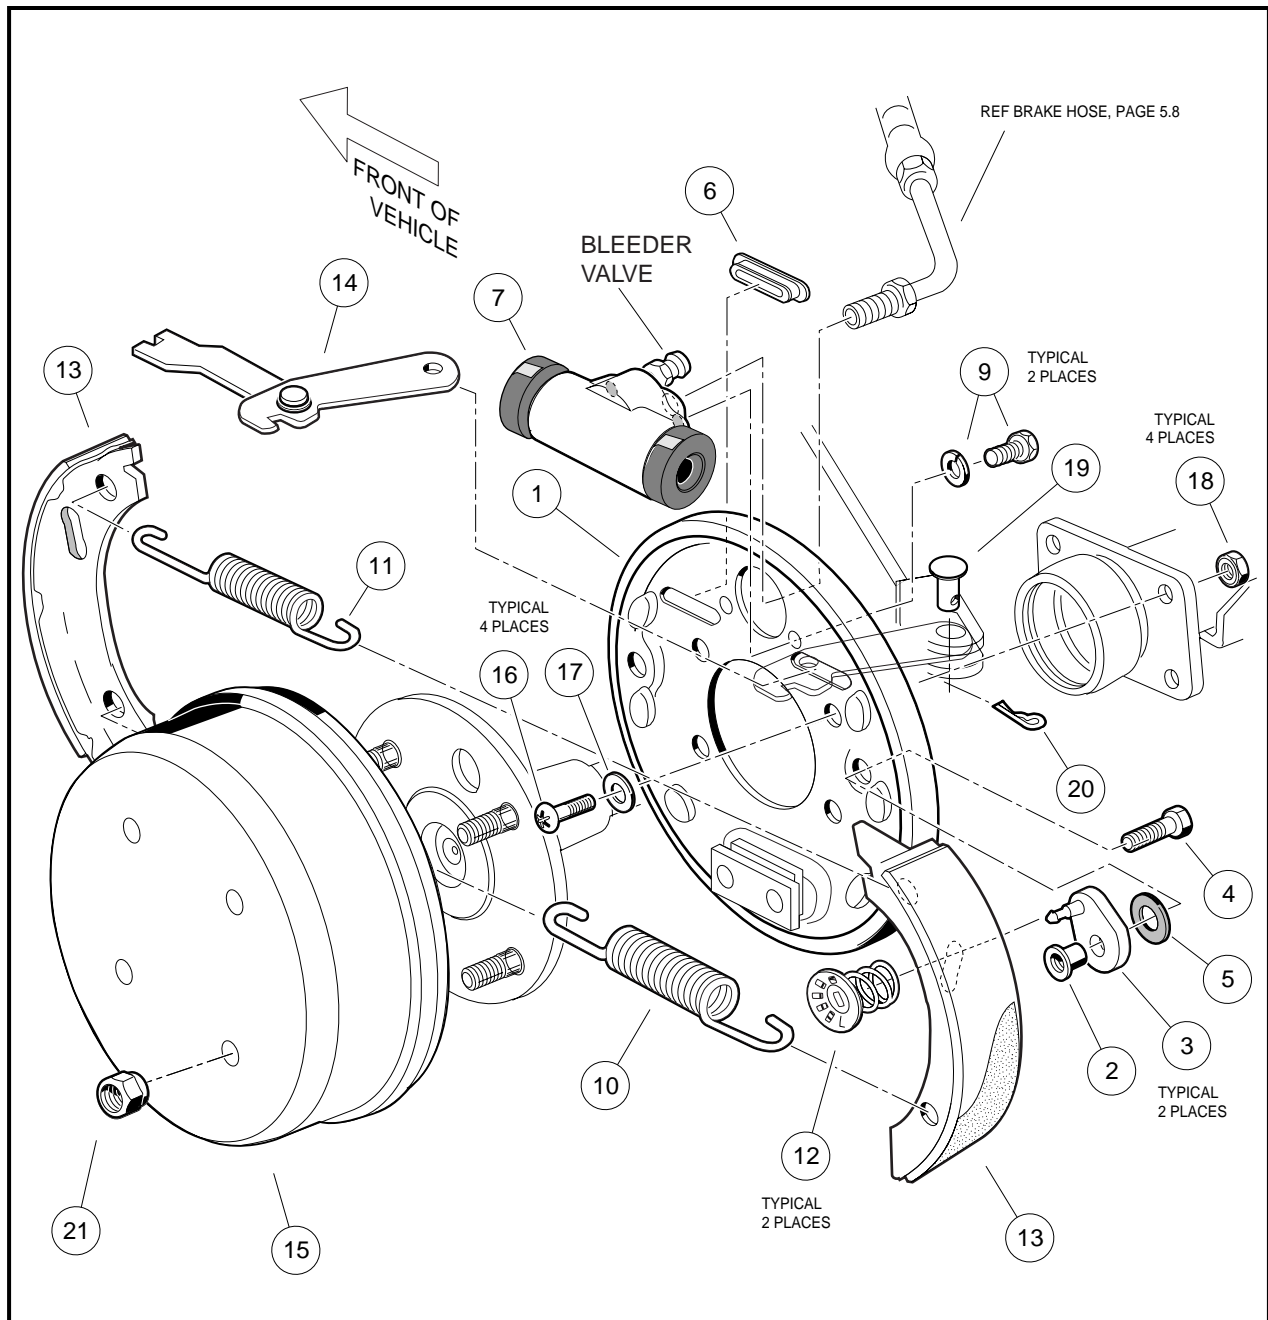

Figure 6-18 Rear Hydraulic Brake Cluster Assembly
- *Do not apply more than 65 in-lb (7.3 N·m) of torque to any of the adjuster bolts. Over-tightening the adjuster bolts could result in damage to the brake cluster components or the separation of the bolt (4) from the adjuster (3) (**Figure 6-1, Page 6-2 or Figure 6-18, Page 6-20**).*
1. Place the drum (15) onto the axle and brake cluster (**Figure 6-18, Page 6-20**).
- Do not apply more than 65 in-lb (7.3 N-m) of torque to any of the adjuster bolts. Over-tightening the adjuster bolts could result in damage to the brake cluster components or the separation of the bolt (4) from the adjuster (3) (**Figure 6-1, Page 6-2 or Figure 6-18, Page 6-20**).
6. Remove the four Torx head bolts (16), washers (17) and lock nuts (18) that secure the brake cluster to the axle tube assembly (**Figure 6-18, Page 6-20**).
1. Use only **new** hardware for this step. Install the brake cluster mounting plate to the axle tube assembly with four Torx head bolts (16), washers (17) and lock nuts (18). Tighten all four bolts to 76 in-lb (8.6 N·m) (**Figure 6-18, Page 6-20**).
2. Connect the brake hose to the brake cluster assembly with a 3/8 inch **flare nut wrench**. Tighten the flare nut fitting to 11 ft-lb (14.9 N·m) (**Figure 6-18, Page 6-20**).
3. Remove the brake line or hose from the wheel cylinder (7) (**Figure 6-18, Page 6-20**). **See Hydraulic Line and Hose Replacement on page 6-24.**
4. Remove two bolts and lock washers (9) that secure the wheel cylinder to the brake cluster mounting plate (**Figure 6-1, Page 6-2 or Figure 6-18, Page 6-20**).
1. Install wheel cylinder with two **new** bolts and lock washers (9) (**Figure 6-18, Page 6-20**). Tighten the two bolts to 120 in-lb (13 N·m).
5. Grip adjuster arm (3) with a pair of locking pliers and remove the bolt (4) on the back side of the backing plate with a wrench or socket (**Figure 6-1, Page 6-2 or Figure 6-18, Page 6-20**).
6. Remove and discard all adjuster components (3, 4, and 5) (**Figure 6-1, Page 6-2 or Figure 6-18, Page 6-20**).
1. Apply a light coat of grease to the belleville washer (5) and install the washer onto the adjuster arm (3) as shown (**Figure 6-1, Page 6-2 or Figure 6-18, Page 6-20**).
2. Carefully apply Loctite® 222 to the bolt (4) (**Figure 6-1, Page 6-2 or Figure 6-18, Page 6-20**).
3. Insert the nose of the tube nut (2) into the backing plate (1). Tighten the bolt to 115 in-lb (13 N·m) (**Figure 6-1, Page 6-2 or Figure 6-18, Page 6-20**).